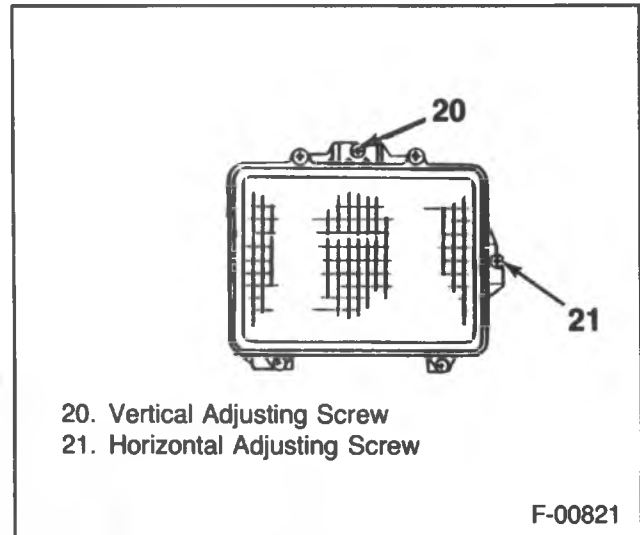

Figure 8 — Headlamp Aiming Screws
Horizontal and vertical aiming of each headlamp is done by two (2) adjusting screws which move the mounting ring against the tension of the coil spring (figure 8).